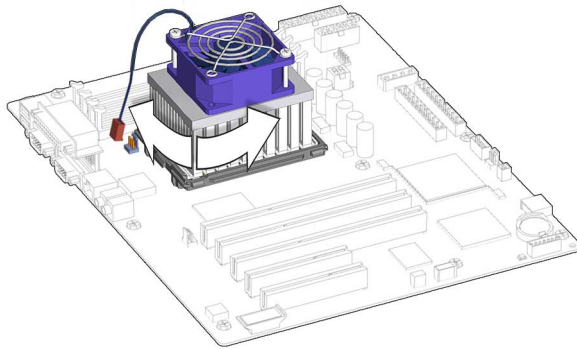

FIGURE 11-18 Rotating CPU Fan and Heatsink Assembly
- a. If there is resistance, rotate the CPU fan and heatsink assembly clockwise/counterclockwise while gently pulling up. See FIGURE 11-18.**